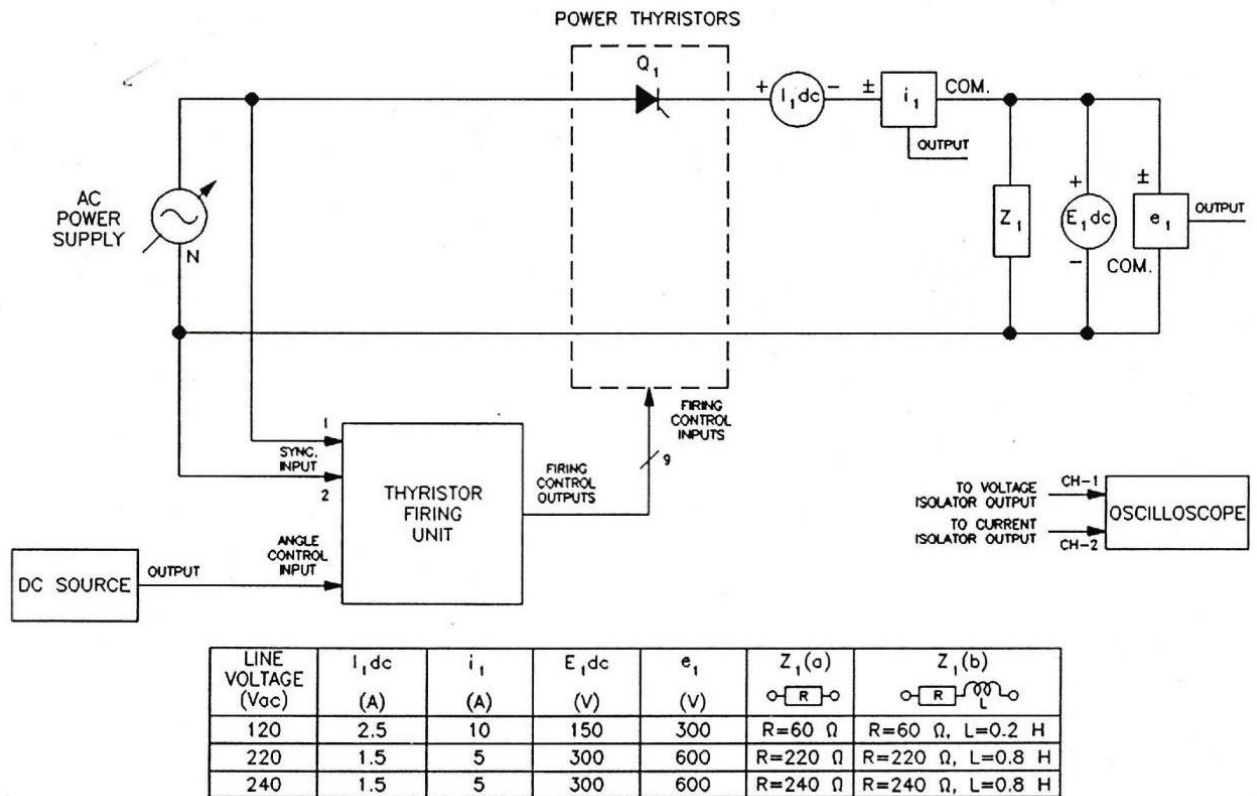

Figure 5-11. Controlled rectifier supplying a passive load
10. Setup the circuit in Figure 5-11 using the resistive load Z_1 (a)